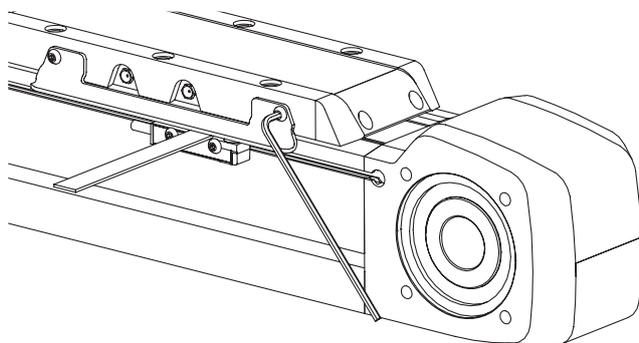

Fig. 6.41 Setting the switching distance with a feeler gauge, and tightening the bolts
- ▶ Move the carriage until the damping element is above a limit switch. Using a feeler gauge, align the damping element for a switching distance of 0.8 mm (± 0.2 mm). Make sure in doing so that the damping element remains parallel to the carriage's lower edge (see Fig. 6.41).